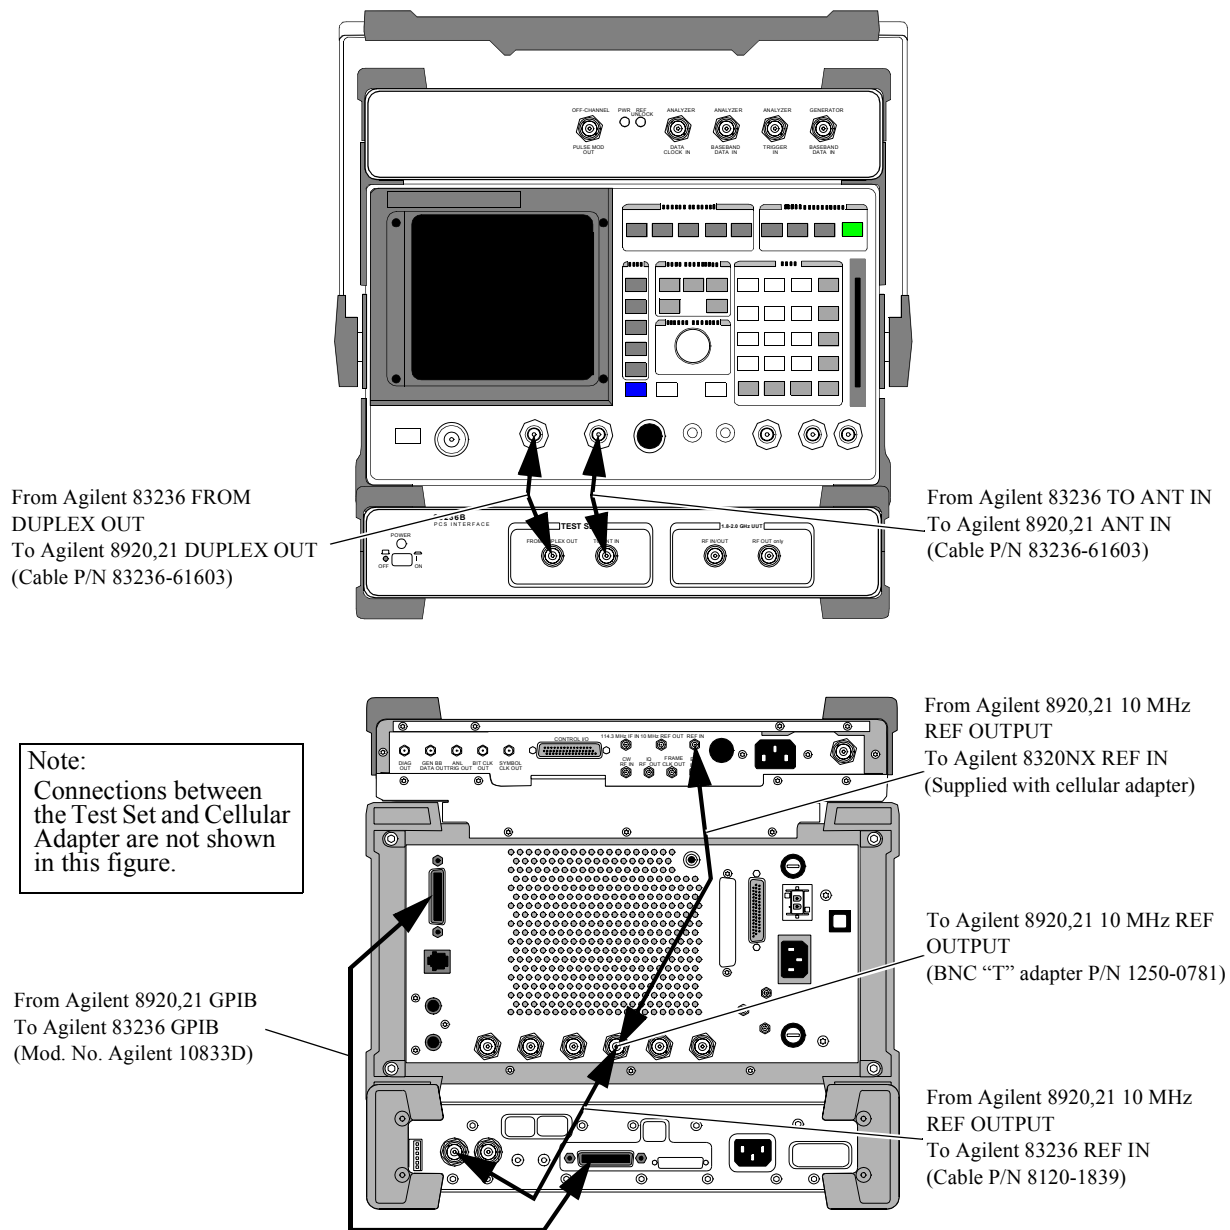

Figure 20 Connectivity Test Connection diagrams for the Base Station Test Configuration
- 3 When you are testing base stations, make front and rear panel connections shown in figure 20.